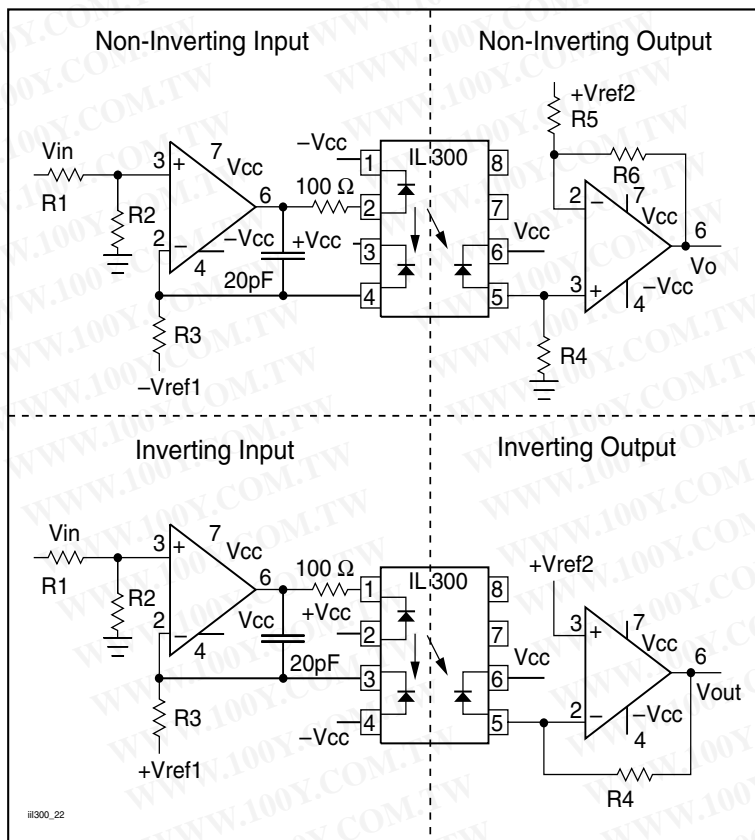

Fig. 22 Non-inverting and Inverting Amplifiers
The same procedure can be used to design isolation amplifiers that accept bipolar signals referenced to ground. These amplifiers circuit configurations are shown in Figure 22. In order for the amplifier to respond to a signal that swings above and below ground, the LED must be pre biased from a separate source by using a voltage reference source (V_{ref1}). In these designs, R3 can be determined by the following equation.